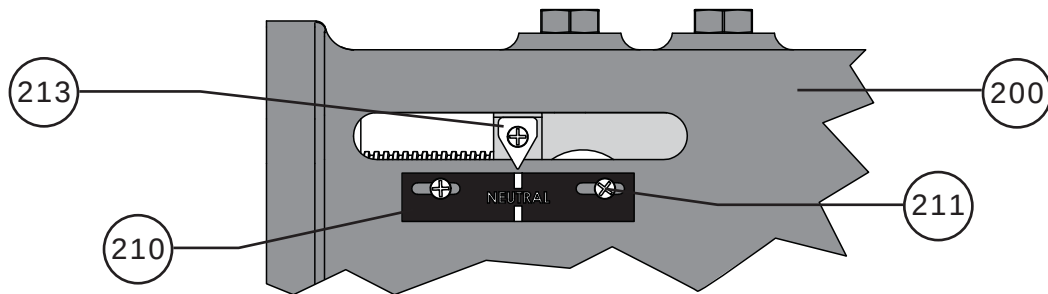

Figure 49 Indicator Plate Installation Diagram
- 3 Using two machine screws (Key 211), install the indicator plate (Key 210) so that the pointer is centered on the NEUTRAL indicator line. Figure 49.